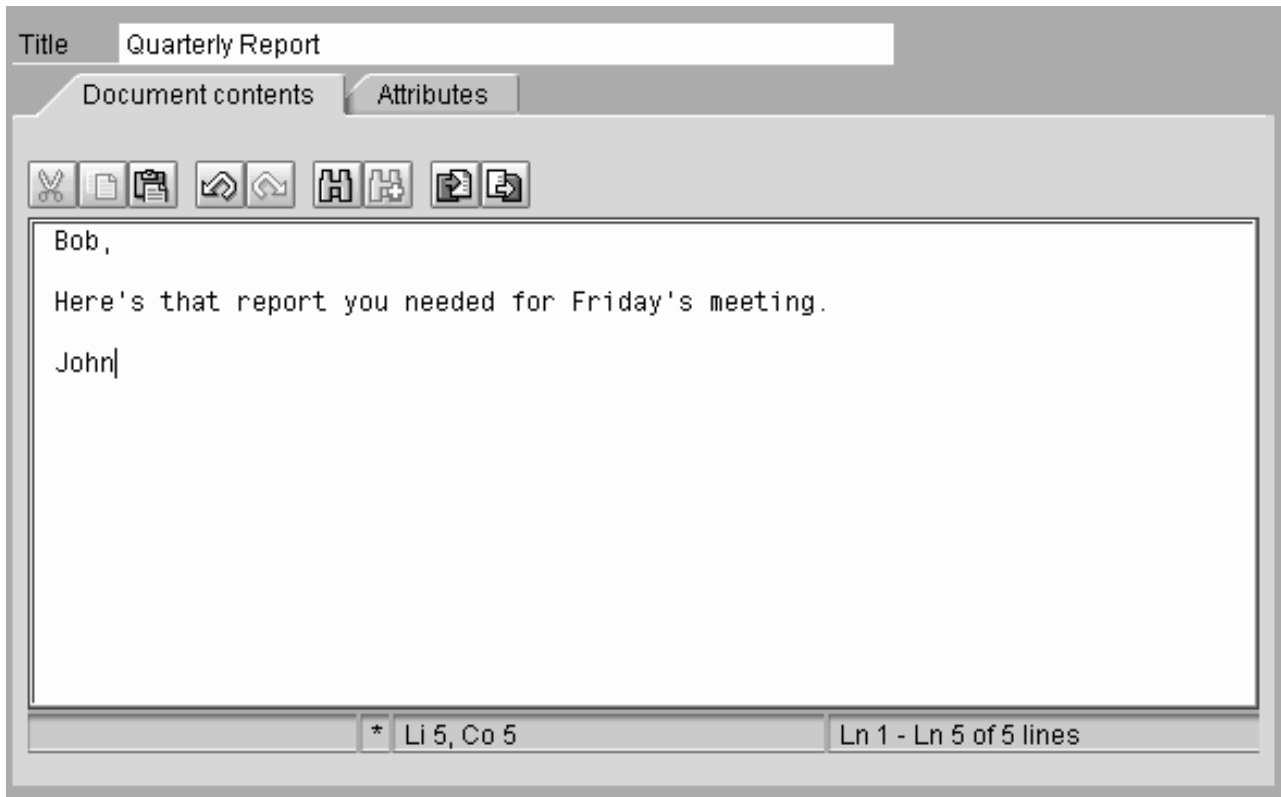

Figure 50. Create Document window
- From the Create Document pop-up dialog, access the **Documents contents** tab and type in your message (see Figure 50 on page 121):